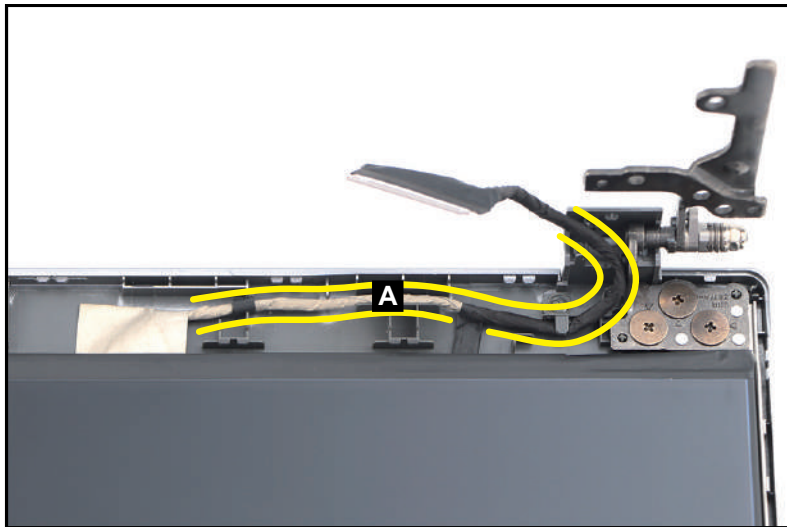

Figure 3-75. LCD Panel Removal
1. Unroute and release the LCD cable from the LCD hinge and the cable guides on the LCD cover as shown in Figure 3-75.